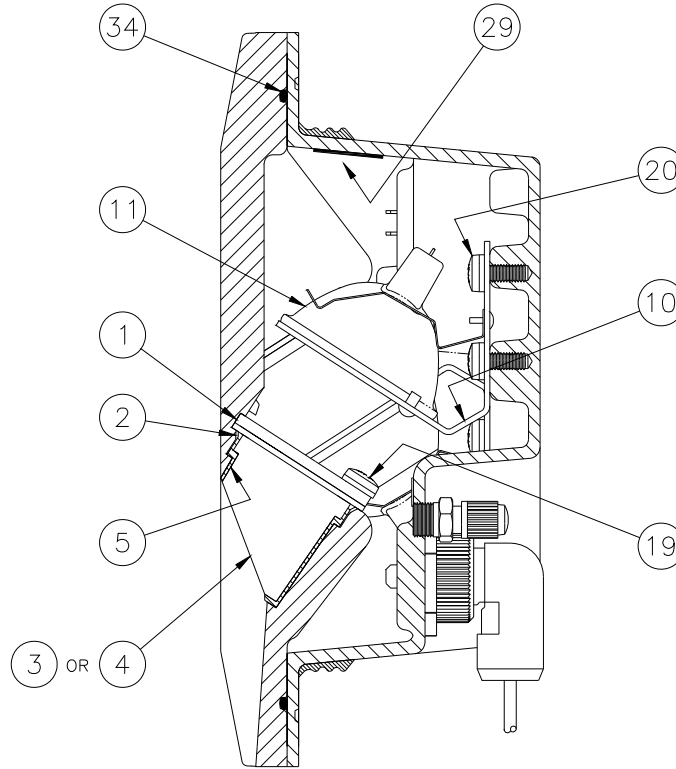

Figure 6 Cut Away View of Fixture
**Remove and secure power to the fixture.** Separate the Optical Assembly from the light base by removing the two bolts. Turn the Optical Assembly upside down and remove the four screws holding the inner cover to the light housing. Disconnect the lamp leads from the feed-thru terminals. Remove the feed-thru by unscrewing the retaining collar. Clean the mounting surface with Isopropyl Alcohol and allow to dry. Apply a thin coat of Dow Corning FS 1292 grease to the mounting flange of a new feed-thru (P/N 21121 for 2 lamp/ 1 plug, or P/N 21122 for 1 lamp/ 1 plug). Apply a drop of Loctite 242 to the feed-thru adapter threads. Screw the feed-thru retaining collar onto the adapter; refer to Figure 6 for proper inner cover/ feed-thru orientation. Torque the retaining collar to 30 in-lbs. Assemble the inner cover onto the light housing. The screw hole patterns in the inner cover and light housing are offset to insure proper alignment. Torque the mounting screws to 30 in-lbs. Perform a pressure test per paragraph 8.6. Clean the mounting flange area of the base. Place the fixture into the base. Apply Loctite 242 (P/N 10048-30), per manufacturer's instructions, to both mounting bolts and immediately torque them to 225 -0+10 in-lbs.